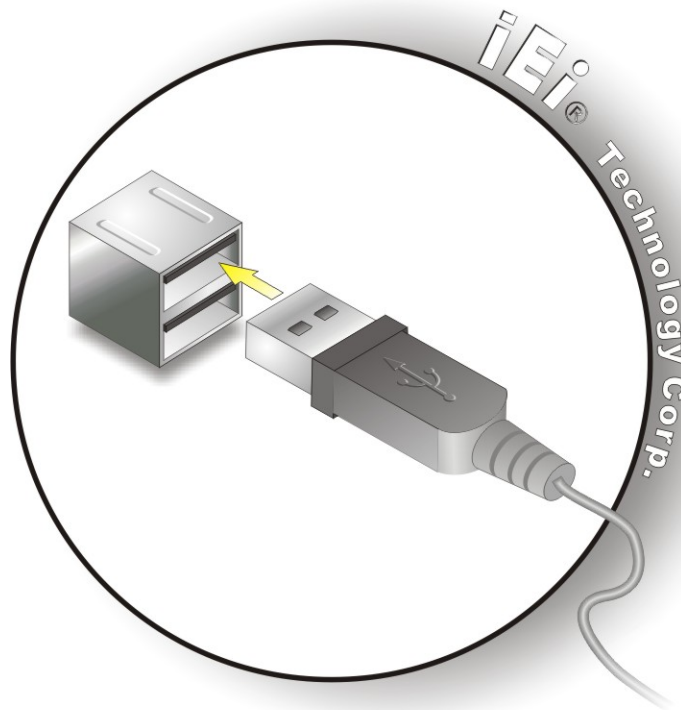

Figure 5-21: USB Connector
Step 2: Insert a USB Series "A" plug. Insert the USB Series "A" plug of a device into the USB Series "A" receptacle on the external peripheral interface. See **Figure 5-21**.